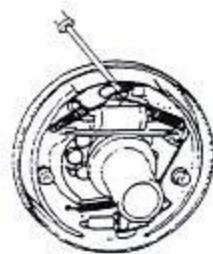

Figure2
(2) Remove the shoe return spring ,as figure 2